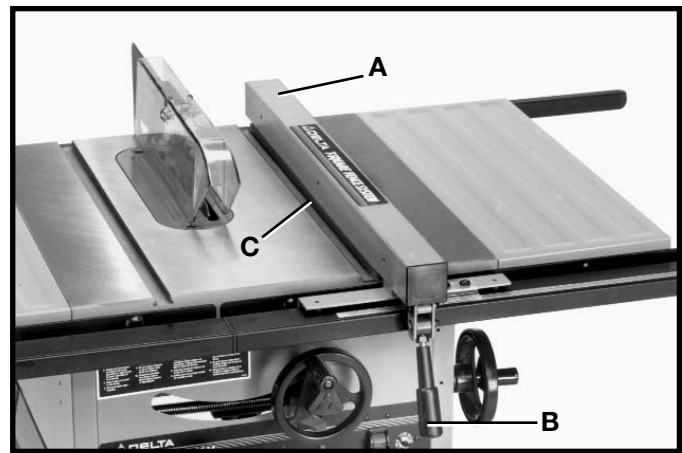
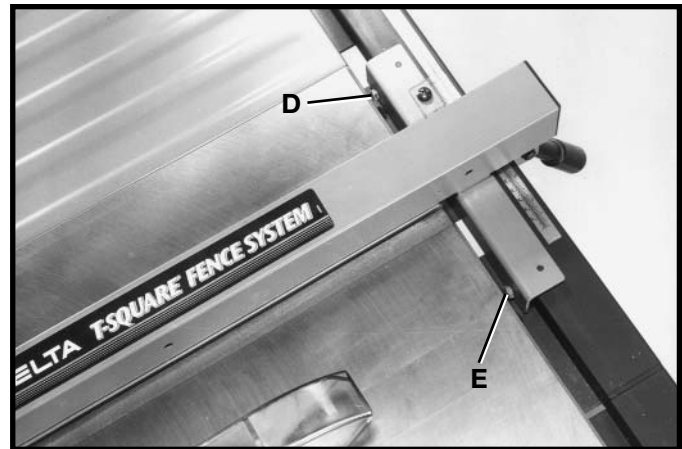

Fig. 41
Fig. 42
1. To move the fence (A) Fig. 41, along the guide rails, lift up on the fence locking lever (B), slide the fence to the desired location on the guide rails and push down on the locking lever (B) to lock the fence in position.
2. The fence (A) Fig. 41, must be adjusted so it is parallel to the miter gage slots (C). To check and adjust, move fence (A) until the bottom edge of the fence is in line with the edge of one of the miter gage slots as shown, and push down on the fence locking lever (B). Check to see if the fence (A) is parallel to the edge of the miter gage slot (C) the entire length of the table. If an adjustment must be made, slightly tighten or loosen one of the two adjusting screws (D) or (E) Fig. 42. Check again to see if the edge of the fence is parallel with the miter gage slot the entire length of the slot. Repeat this adjustment until you are sure the fence is parallel with the miter gage slot. **IMPORTANT: DO NOT REMOVE THE RIP FENCE FROM THE GUIDE RAIL TO MAKE THIS ADJUSTMENT. VERY LITTLE MOVEMENT OF SCREWS (D) AND (E) FIG. 42, IS NECESSARY TO ADJUST THE FENCE PARALLEL WITH THE MITER GAGE SLOT.**